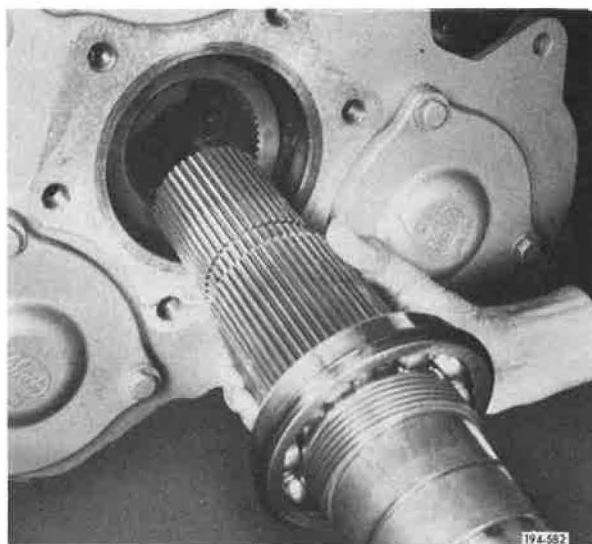

Figure 5-279. Removing Rear Mainshaft
11. Remove rear mainshaft the rest of the way. See Figure 5-279.